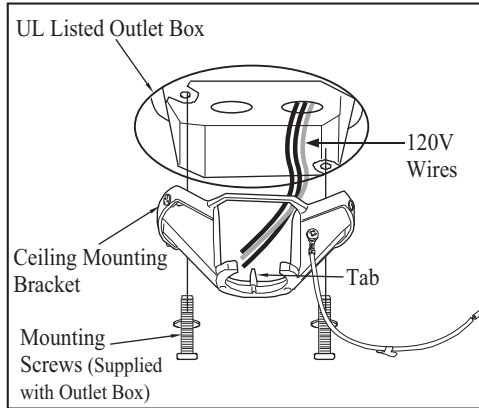

Figure 11
1. Pass the 120-volt supply wires through the center hole in the ceiling mounting bracket as shown in Figure 11.
2. Install the ceiling mounting bracket on the outlet box with the screws and washers provided with your outlet box (Figure 11). When using "close-to-ceiling" mounting, it is important that the mounting bracket be level. If necessary, use leveling washers (not included) between the mounting bracket and the outlet box. Note that the flat side of the mounting bracket is toward the outlet box. (Figure 11)